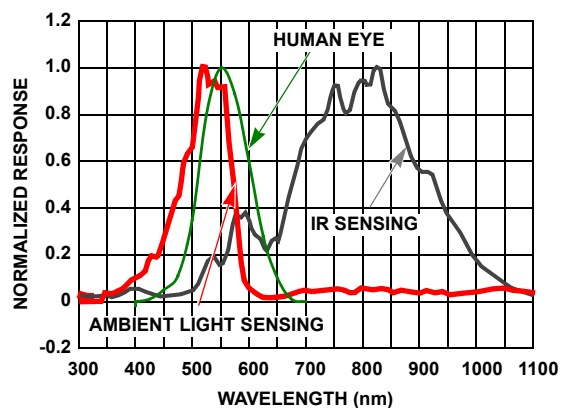

FIGURE 4. NORMALIZED SPECTRAL RESPONSE FOR AMBIENT LIGHT SENSING AND IR SENSING
The ISL29023 contains two photodiode arrays, which convert light into current. The spectral response for ambient light sensing and IR sensing is shown in Figure 4, on page 4. After light is converted to current during the light signal process, the current output is converted to digital by a built-in 16-bit Analog-to-Digital Converter (ADC). An I2C command reads the ambient light or IR intensity in counts.
When the part is programmed for ambient light sensing, the ambient light with wavelength within the "Ambient Light Sensing" spectral response curve in Figure 4 is converted into current. With ADC, the current is converted to an unsigned n-bit (up to 16 bits) digital output.
When the part is programmed for infrared (IR) sensing, the IR light with wavelength within the "IR Sensing" spectral response curve in Figure 4 is converted into current. With ADC, the current is converted to an unsigned n-bit (up to 16-bits) digital output.